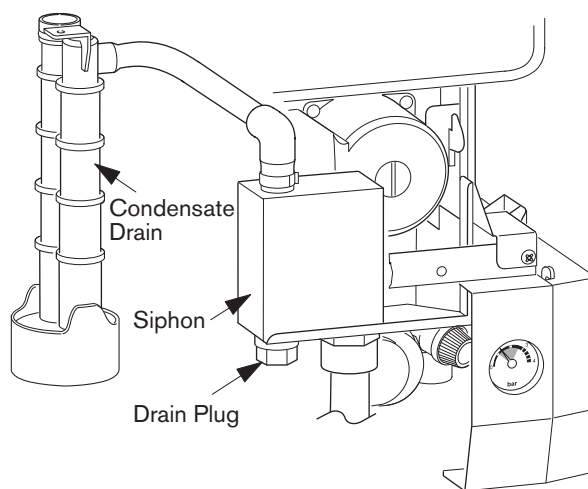

Fig. 60
- ▶ Unscrew and remove the the siphon by releasing the jubilee clip. Refer to fig. 60.